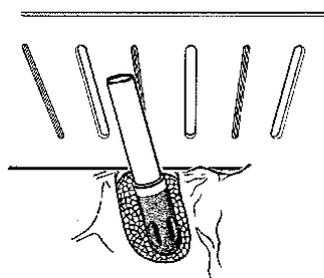

Fig. B2
2. Place the stainless steel Angle Measurement Guide behind the Parallel Post, level with the path of prosthesis insertion, to determine the divergence in degrees. (Fig. B2). An additional Parallel Post can be placed into an adjacent non-divergent implant to determine the difference in the angle between it and the divergent implant.